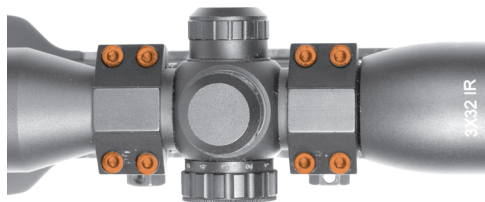

Fig. 6
1. Attach the scope mount rings onto the scope using the scope mount screws (4) (Fig. 6). Position your scope by moving it forward or backward until the proper